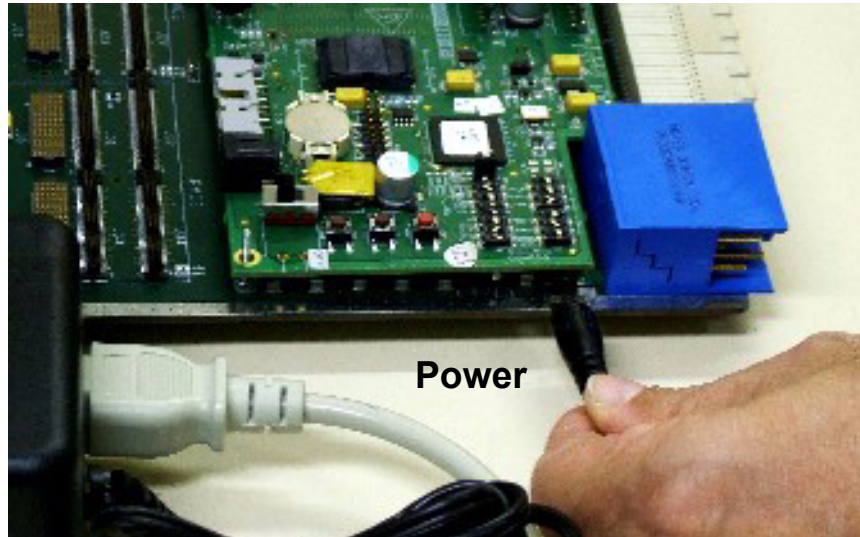

Figure 2-10. Connecting Power input to the PIB
7. If you are not working with either the USB or the PCI cards, and you will be working with the PIB in a “table-top” configuration (as opposed to inserting it in a rack to use its back plane connections), you can at this point connect the power supply to the voltage input as shown in Figure 2-10.